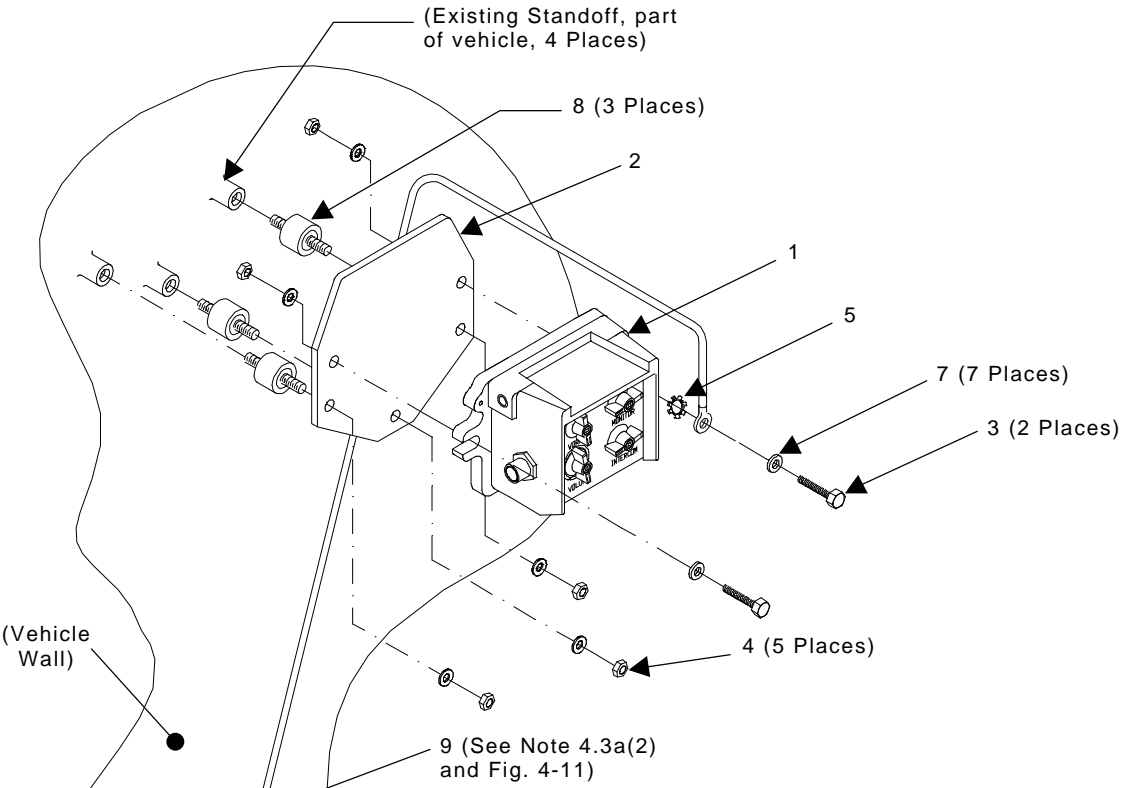

Figure 4-4. FSO FFCS Installation
- (1) Install and secure the FSO and FSSgt FFCS's on existing standoffs on the turret wall in the sequence(s) shown in Figures 4-4 and 4-5. Secure the FFCS's using the parts listed in Table 4-2 and the following tools: